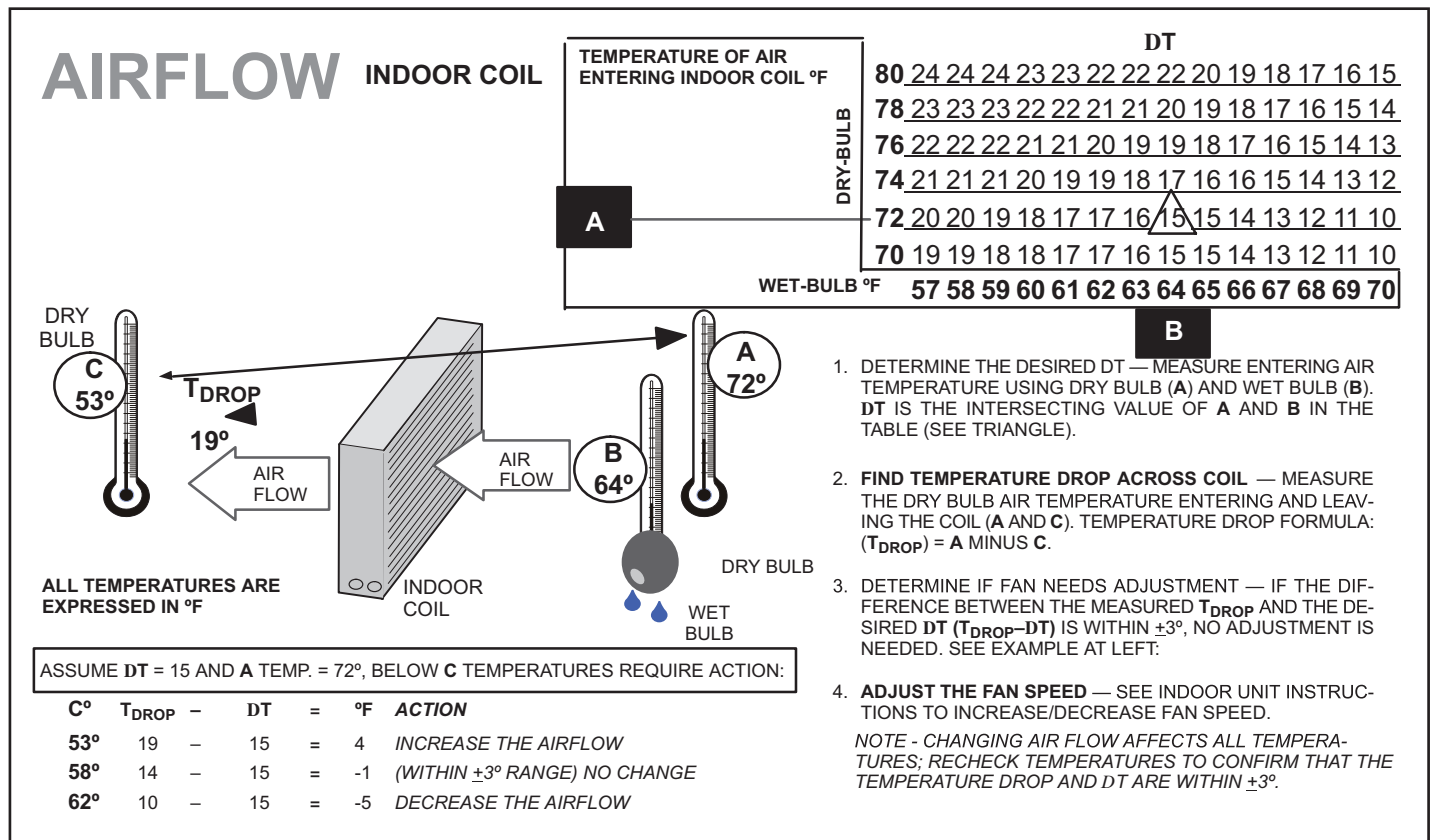

FIGURE 21. Checking Indoor Airflow over Evaporator Coil using Delta-T Chart
This system uses R-454B which operates at slightly lower pressures than HFC-410A. The pre-installed liquid line filter drier is approved for use with R-454B. Do not replace it with components designed for use with HCFC-22. Check airflow using the Delta-T (DT) process using the illustration in figure 21.